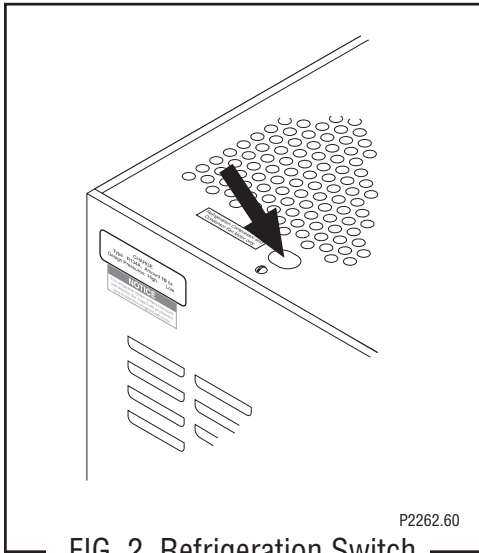
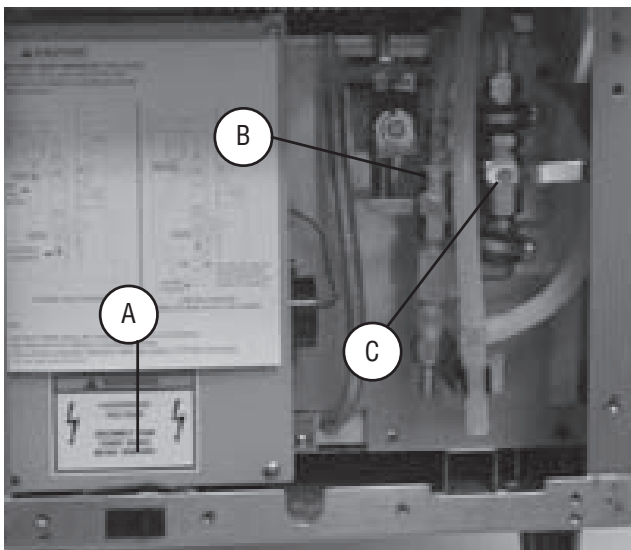

FIG 2 Refrigeration Switch
FIG 3 Sanitize Switch & Water Valves
3. Ensure that the Main Water Valve and the Water Bath Valve Fig 3, are turned off (handles positioned at 3 o'clock and 9 o'clock, respectively,) and that the Refrigeration Switch Fig 2, is in the OFF (rear) position.